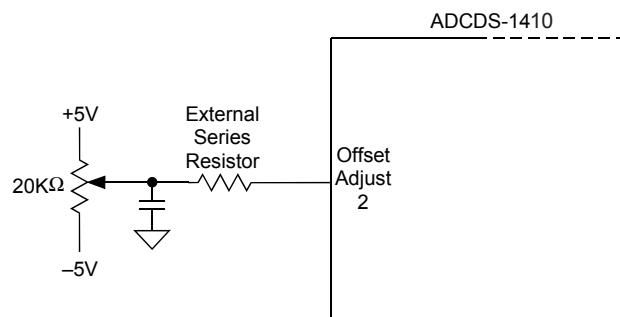
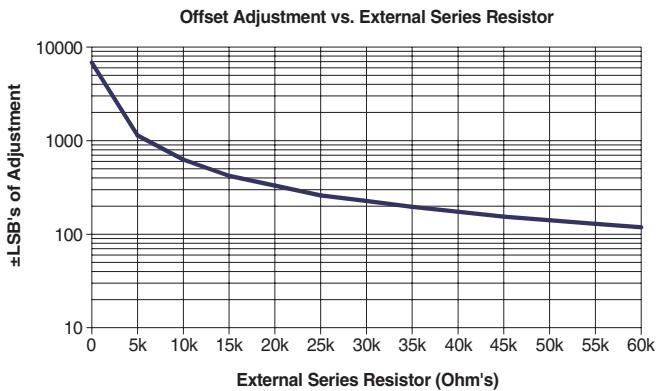

Figure 3. Offset Adjustment Circuit
Figure 6. Offset Adjustment vs. External Series Resistor
3. If using the suggested offset and gain adjust circuits (Figure 3 & 5), place them as close to the ADCDS-1410's package as possible.
Manual offset adjustment for the ADCDS-1410 can be accomplished using the adjustment circuit shown in Figure 3. A software controlled D/A converter can be substituted for the 20K Ω potentiometer. The offset adjustment feature allows the user to adjust the Offset/Dark Current level of the ADCDS-1410 until the output bits are 00 0000 0000 0000 and the LSB flickers between 0 and 1. Offset adjust should be performed before gain adjust to avoid interaction. The ADCDS-1410's offset adjustment is dependent on the value of the external series resistor used in the offset adjust circuit (Figure 3). The Offset Adjustment graph (Figure 6) illustrates the typical relationship between the external series resistor value and its offset adjustment capability utilizing ± 5 V supplies.